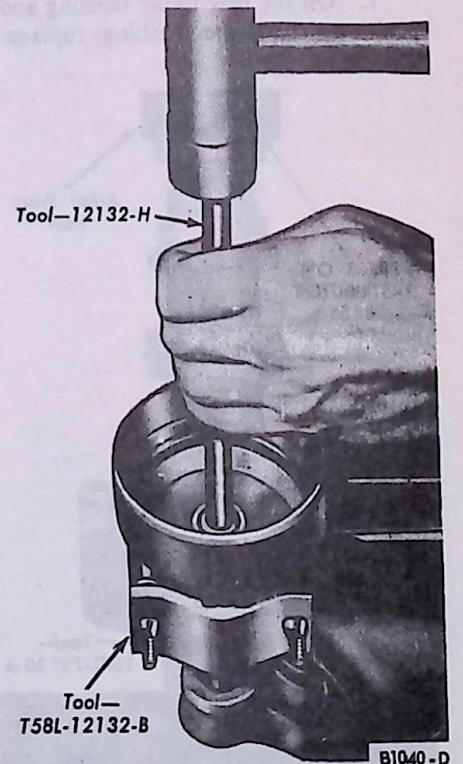

FIG. 19 Removing Lower Bushing
15. Refer to Figs. 19 and 20 and remove the distributor shaft upper and lower bushings. (The 401, 477 and 534 SD V-8 distributors do not have lower bushings).